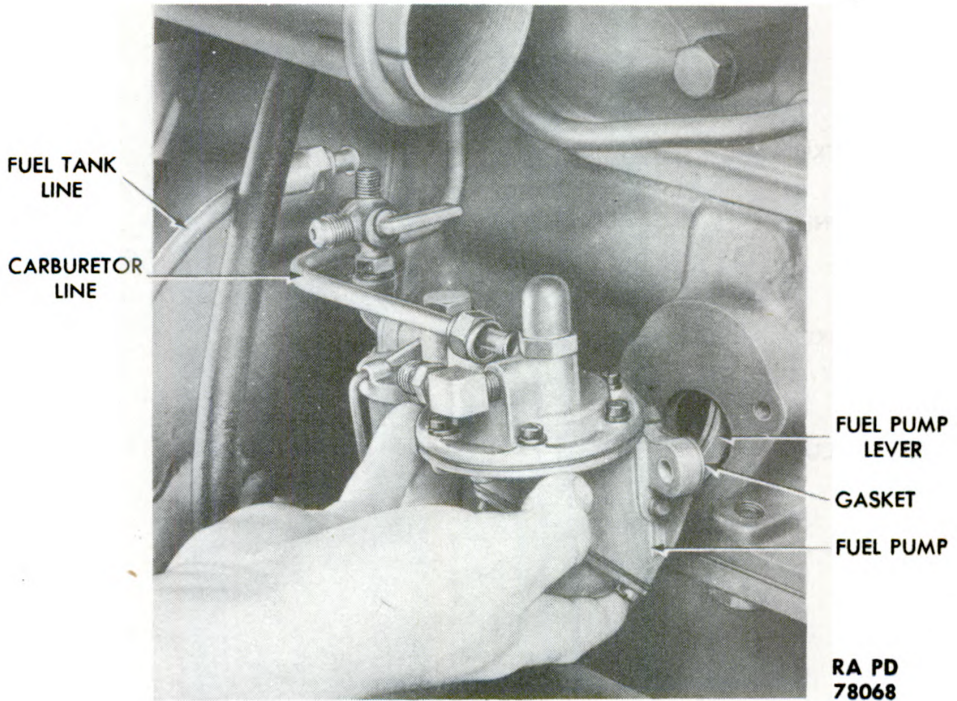

Figure 36 – Fuel Pump Installation
(2) Take out the two cap screws and lock washers that hold the pump to the engine, and remove pump assembly (fig. 36).
(1) Install pump at slight upward angle (fig. 36) to get pump lever into its proper position on the camshaft. If some resistance is not met against the lever pressure, the lever is not riding against the cam, and the angle should be altered slightly and tried again. When the pump is correctly positioned, secure to engine with cap screws and lock washers. Use new gasket when installing pump.